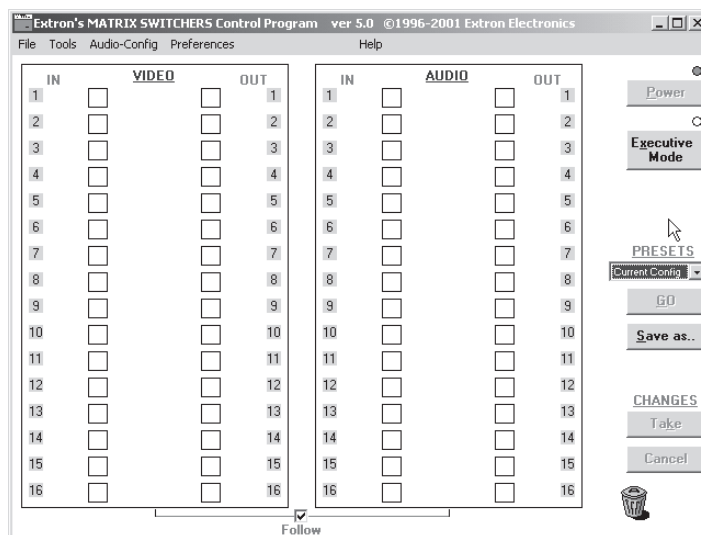
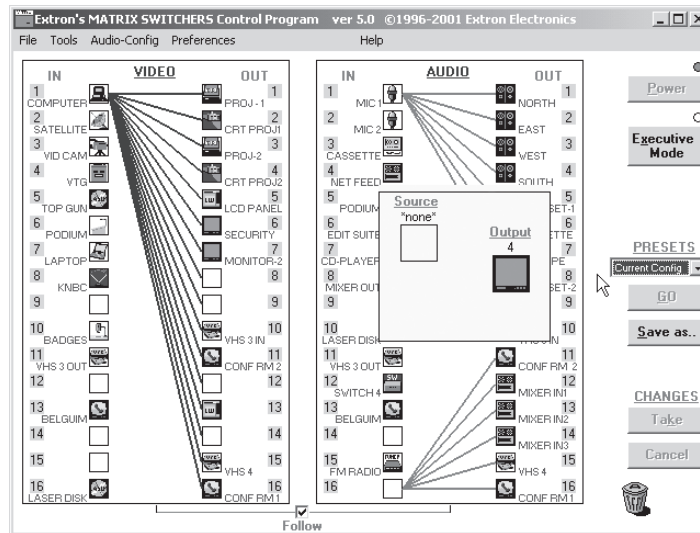

Figure 5-4 — Extron Matrix Switchers Control Program window (no ties)
Figure 5-5 — Sample program window (with ties)
3. The Extron Matrix Switchers Control Program window (figure 5-4 and figure 5-5) appears. The window displays the current configuration of the attached matrix.
Icons in I/O boxes — Erases any numbers in the I/O boxes in the Control Program window (figure 5-5). You can place icons in the boxes.